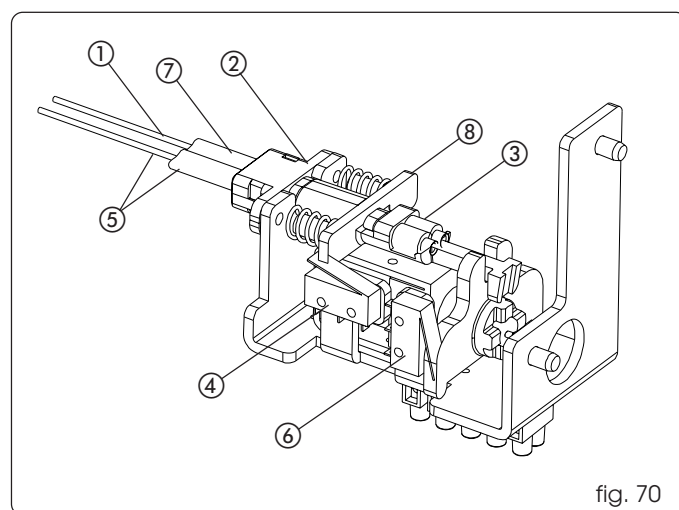

fig. 70
- Take the cable with sheath to detail ② in figure 70, and cut excess sheath.
- Route the cable (fig.70 ref. ①) inside detail ②, taking the sheath to its contact point (fig. 70 ref. ⑦).
- Insert the cable in the clamp (fig. 70 ref. ③)
- Pull detail ⑧ to its contact point (compressing the springs) and fasten the screw of the clamp ③, thus securing the steel cable. Cut the excess portion of the steel cable.
- Release the knob, turning it through 90°, and check if the release functions. Also check if the door opening microswitch (fig. 70 ref. ④) is activated by pulling the knob.
If it is necessary to install the external lock device, use key-operated push-buttons T21IF or T21EF. Fit the release cable on the motor lock device, using the appropriate seat (fig. 70 ref. ⑤).
Install the surveillance microswitch as shown in fig. 70 ref. ⑥. For electrical connection and programming, refer to the section on the control board in these instructions.